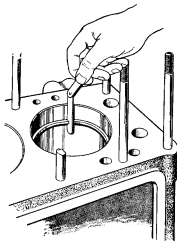

Fig.28 - Measuring a piston ring gap
6. Insert each piston ring into the cylinder bore and measure the piston ring gap as shown in Fig. 28.